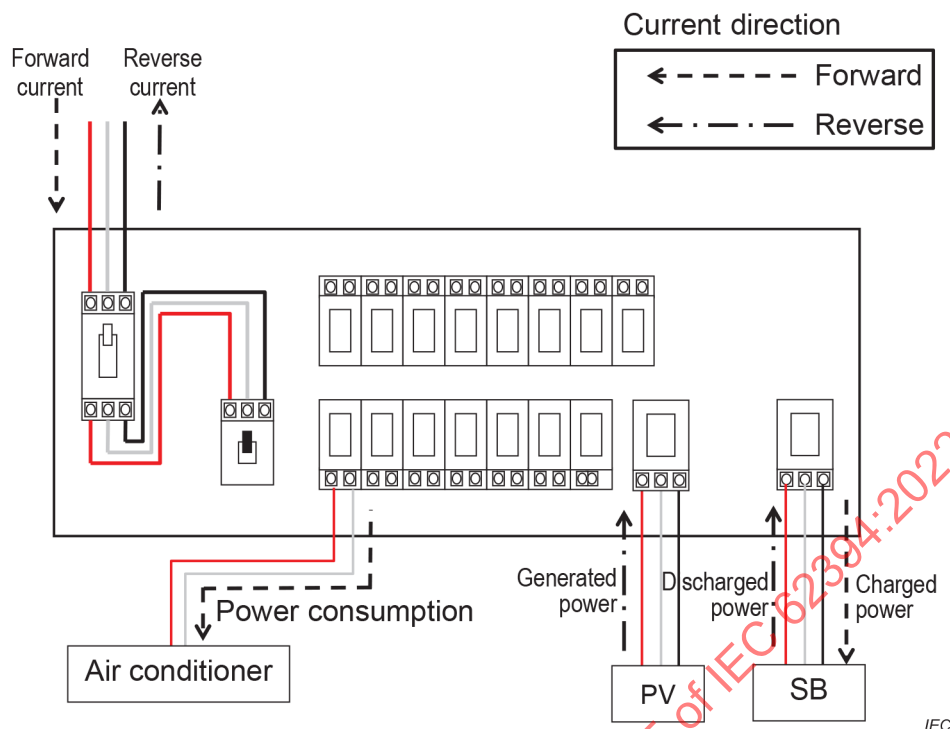

Figure 76 – Current direction in power distribution board
Forward and reverse directions are defined with reference to Figure 76.
For master metering, forward current is defined as forward direction, and reverse current as reverse direction. Power consumption by air conditioning or lighting is defined as forward direction. Power generation by photovoltaic generator (PV), fuel cell (FC), or similar solar photovoltaic power generation system is defined as reverse direction. For storage battery (SB), electric vehicle (EV/EHV), or similar battery systems, charged energy is defined as forward direction, and discharged energy as reverse direction. The current direction is shown in Figure 76